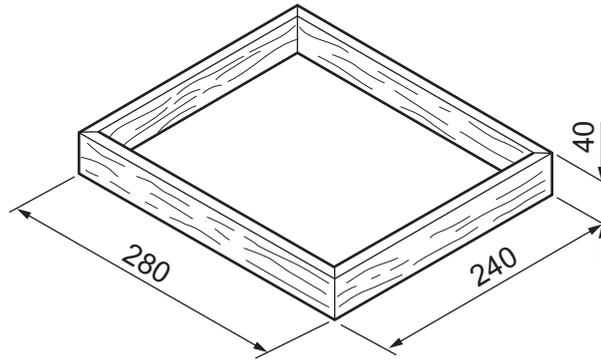

Fig. 11.2
- (c) Fig. 11.2 shows details of the tray in which tins of paint and brushes could be placed while painting from the ladder. Mitre joints are used to join the sides at each corner of the tray.